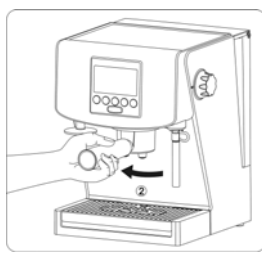
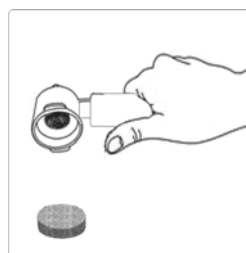
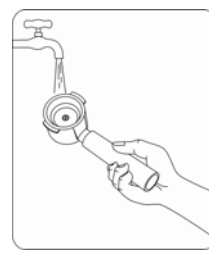

Fig. 5
Fig. 6
Fig. 7
- 11.18. Remove the filter handle by turning it to the left (Fig. 5) and throw out the used bag or coffee grounds (Fig. 6). Clean the filter with water (Fig. 7).
- 12.17. Remove the filter handle by turning it to the left (Fig. 5) and throw out the used bag or coffee grounds (Fig. 6). Clean the filter with water (Fig. 7).
- 13.14. Remove the filter handle by turning it to the left (**Fig. 5**) and throw out the used bag or coffee grounds (**Fig. 6**). Clean the filter with water (**Fig. 7**).